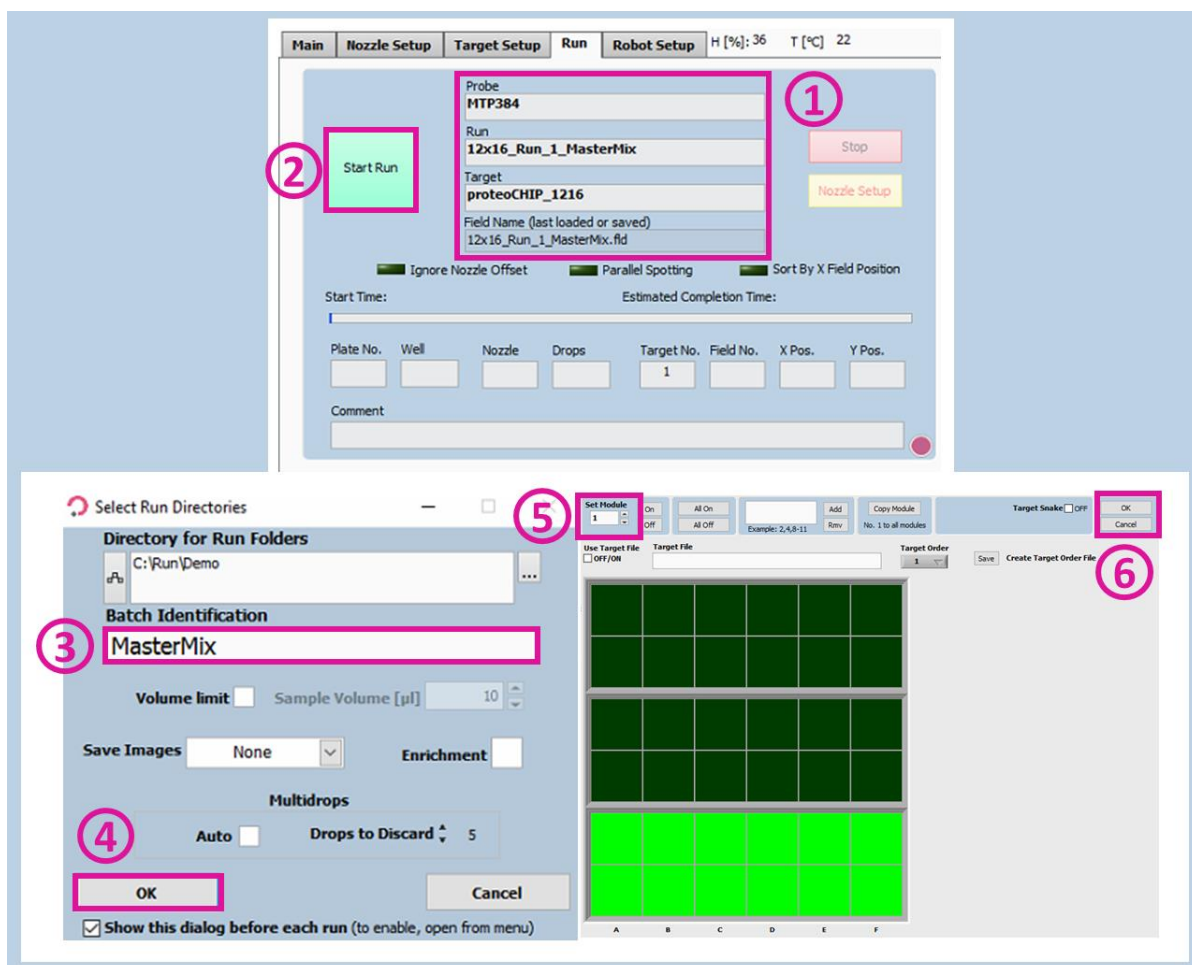

Figure 13. Start Run 1
Once the proteoCHiPs are loaded in the cellenONE as seen in Chapter 3.6., check that you selected the right Probe, Run and Target in the run window (Figure 13 ①). Start the run (Figure 13 ②), select the number of proteoCHiPs that you want to dispense in (Figure 13 ⑤ and click “OK” (Figure 13 ⑥).